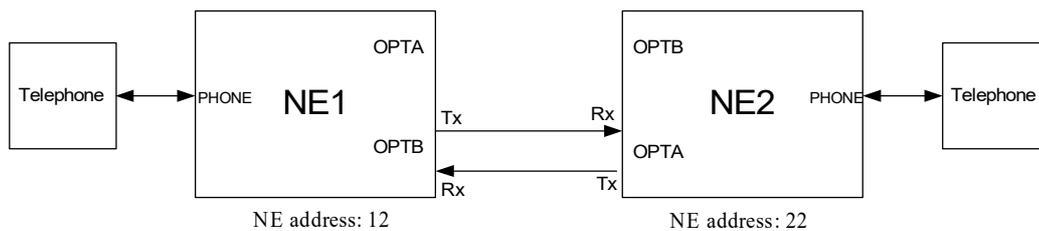

Figure 4-10-2-1
- A. Take point-to-point network application as example, connect the two devices by fiber in point-to-point mode, make sure that the optical B of NE2 is connected with optical A of NE1, and optical A of NE2 is connected with optical B of NE1, as figure 4-10-2-1 shows: